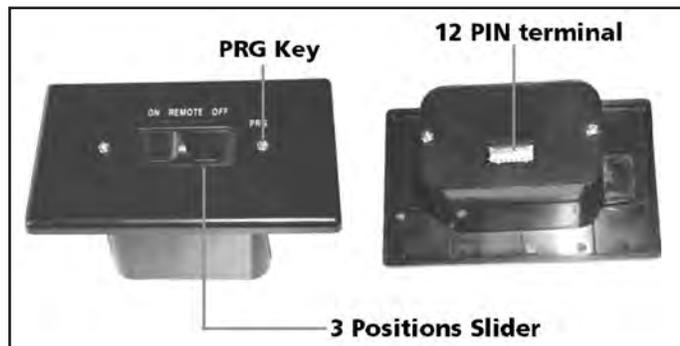

Figure 8: Proflame Receiver.
The Proflame Receiver (Figure 8) connects directly to the gas valve, stepper motor, DFC, and Fan Control Module with a wiring harness. The Receiver is powered by four (4) AA type batteries. The Receiver accepts commands via radio frequency from the Transmitter to operate the appliance in accordance with the particular Proflame system configuration. The Receiver three (3) position slider switch can be set to one of three positions: ON (Manual Override), Remote (Remote control), or Off.
Install the four (4) AA batteries into the receiver battery bay. Note the polarity of the battery and insert into the battery bay as indicated on the Battery cover (+/-). Place the 3-position slider switch in the "Remote" position (see Figure 8). Using the end of a paper clip, or other similar object, insert the end of the paper clip into the hole marked "PRG" on the Receiver front cover (see Figure 8).